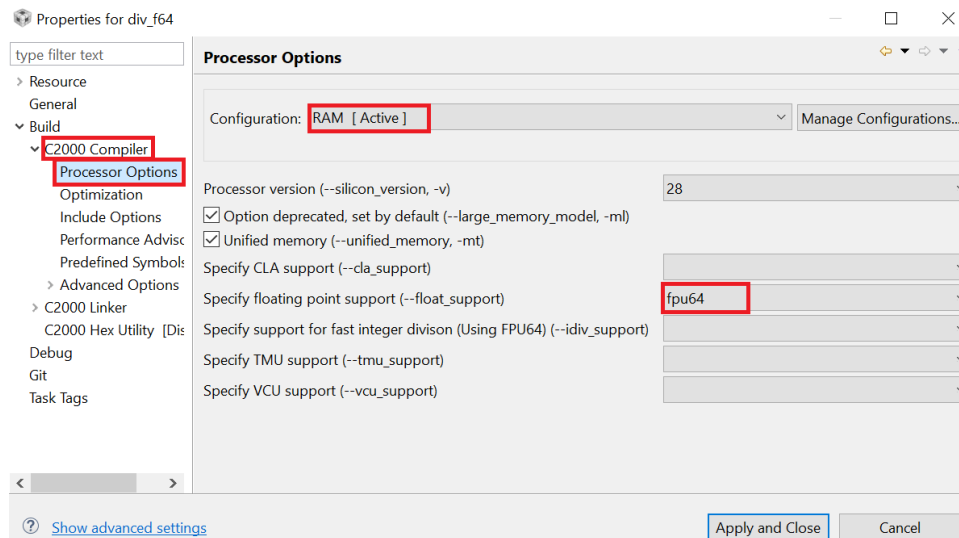

Figure 4.7: Turning on FPU64 support
- For the double precision library set the `--float_support` option to `fpu64` in the **Runtime Model Options** as shown in Figure 4.7.